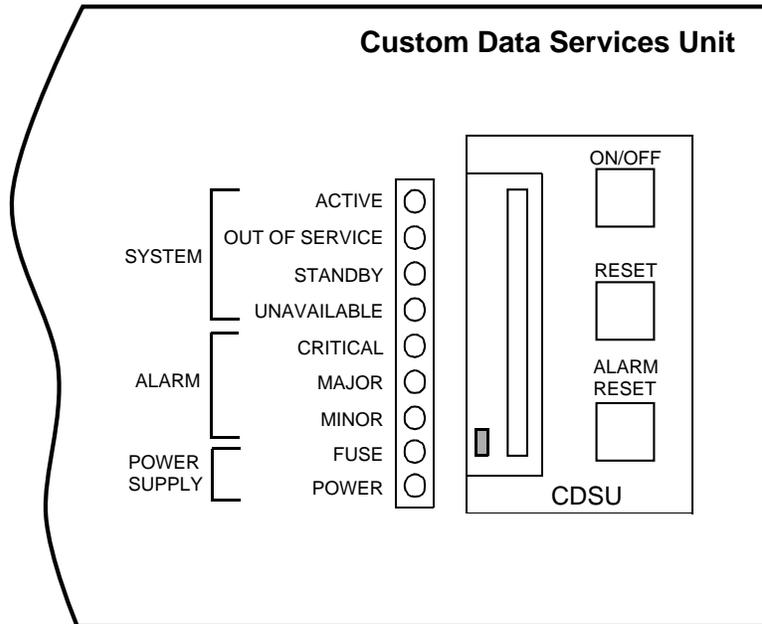

Figure 1. The CDSU-I Control Panel
3. Remove power from the CDSU-I by moving the **ON/OFF** switch on the CDSU-I control panel (see Figure 1) to the OFF position.
Response: The information shown in Figure 1 is displayed and printed.
Note: The words shown in Figure 1 are in **octal** format.